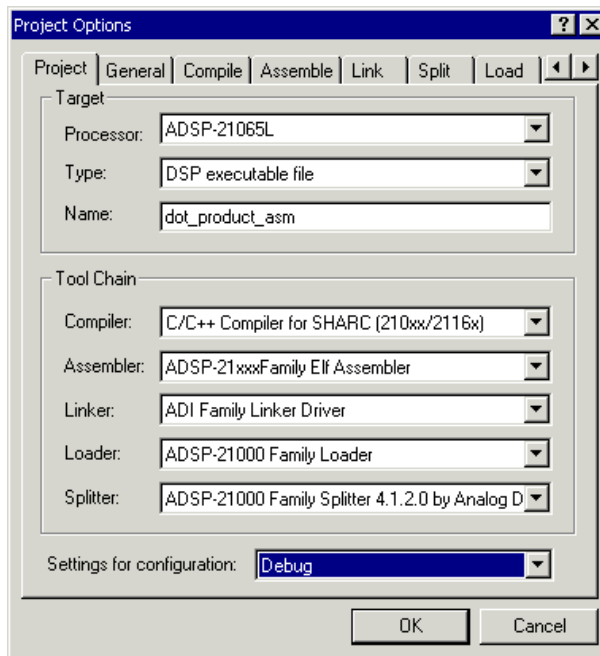

Figure 3-12. Project Options Dialog Box: Project Tab Page
The **Project Options** dialog box (Figure 3-12) appears.
6. On the **Project** tab page (Figure 3-12), specify the following values: